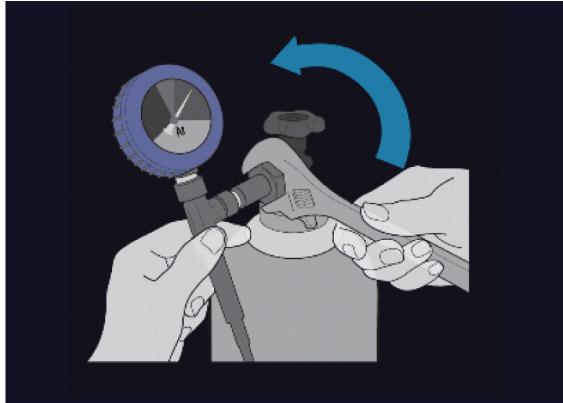

Figure 11. Gas Cylinder Setup
- Connect the argon high-pressure gas supply line to the argon cylinder by securing the gauge assembly adapter onto the cylinder connection (see Figure 11).